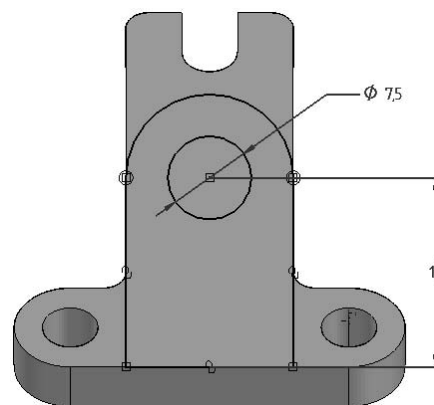

Figure 5-73 Profile for the second feature
- b. Define a new reference plane at an angle of 45 degrees to the right edge of the base feature and use it to draw the profile for the second feature, refer to Figure 5-73.
9. Trim and extend the projected entities using the sketching tools and then draw a tangent arc to complete the profile of the second feature, as shown in Figure 5-73.
10. Add a circle to the profile and then add the required dimensions to the profile and the circle, refer to Figure 5-73.